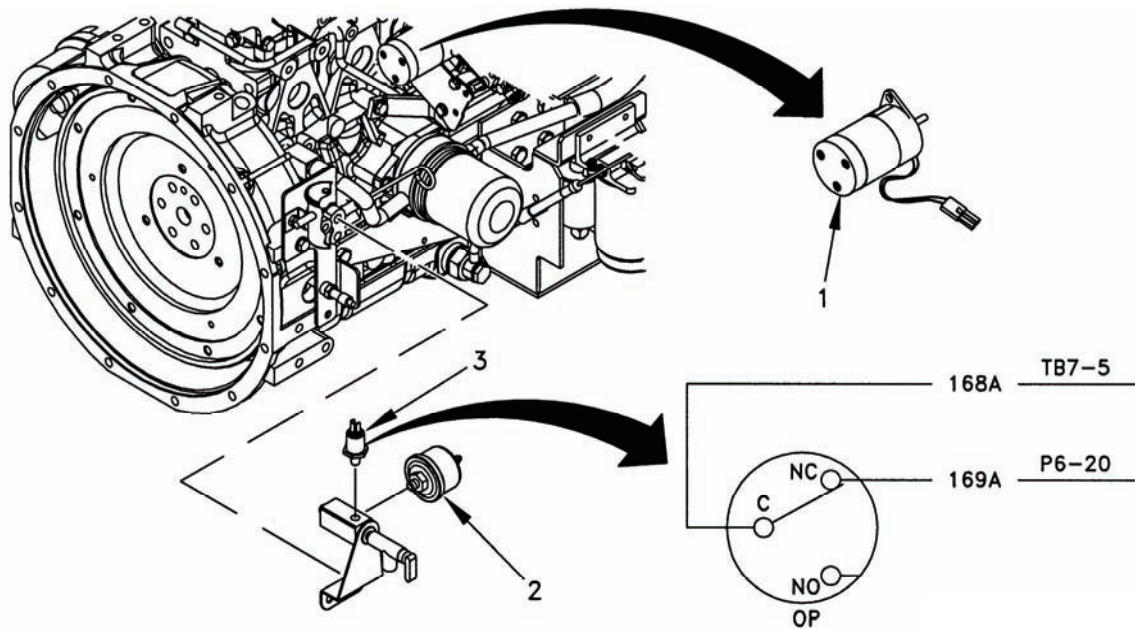

Figure 5-37. Lubrication System Wire Harness.
- aa. Connect connector J10 to governor actuator A6 (1, Figure 5-37).
- ac. Connect wire 177B20 to oil pressure sending unit MT7 (2).
- ae. Connect wire 168A20 (black wire) to C contact of low oil pressure switch OP (3).
- af. Connect wire 169A20 (red wire) to NC contact of low oil pressure switch OP (3).